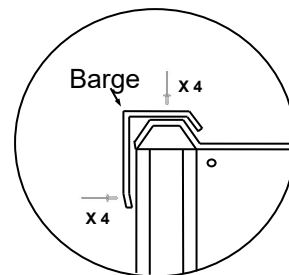

fig.3
- Position the first Roof Sheet so that the top of the sheet is at the centre of the Ridge Beam and the side of the sheet over hangs the end of the Ridge Beam (fig .3). Using 1 x 50mm Clout, pre-drill and nail through the rib into the top corner. Repeat above and nail the lower corner ensuring 15mm overhang.
- Rivet the Barge Flashings to the roof and the side wall, using four rivets on top of barge and four into the side (fig.3).